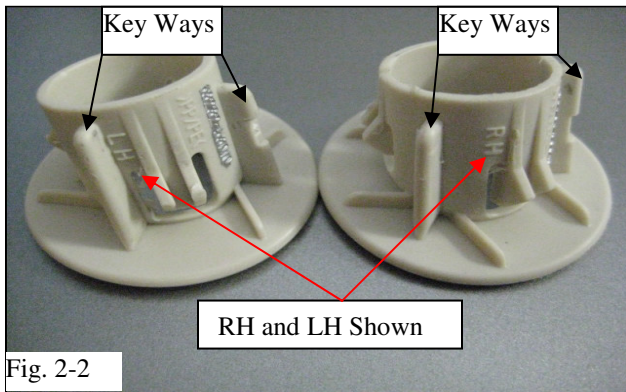

Fig. 2-2
(1) There are RH and LH trim plugs. The trim plugs are marked “RH” and “LH” on the bodies. (Fig. 2-2)
(2) Install the LH trim plug into the driver’s side of the vehicle and the RH trim plug into the passenger side of the vehicle.
(3) The trim plugs are specifically oriented to the curvature of the trim panel. When installing, make sure the key ways on the trim plug correspond to the key ways in the trim panel. (Figs. 2-2 and 2-3)